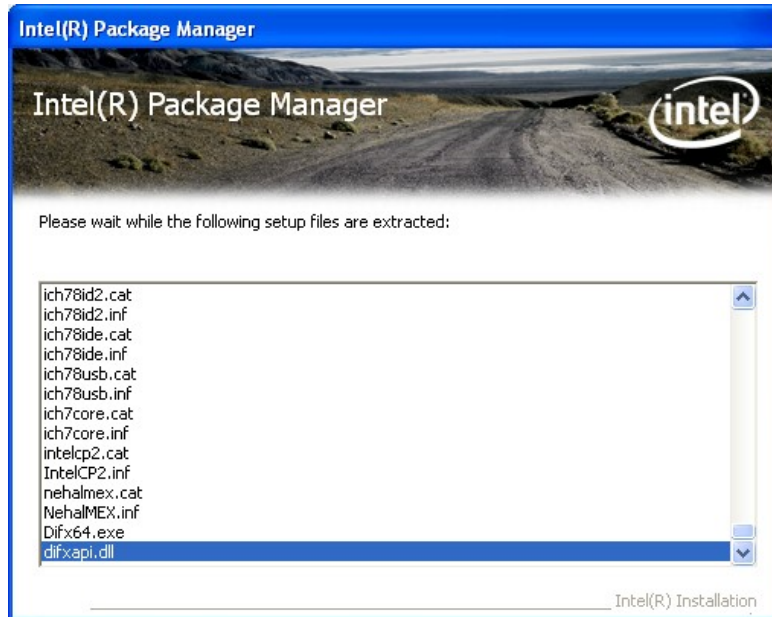

Figure 6-1: Chipset Driver File Extraction Screen
Step 3: The setup files are extracted as shown in **Figure 6-1**.